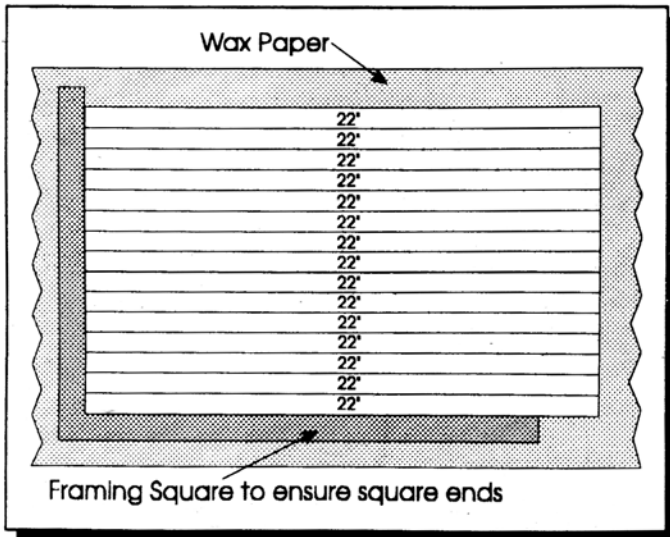

Figure 1- 1st Floor
- Assemble with rounded side up for grooves in floor or flat side up for tight floor joints. See Figure 1.